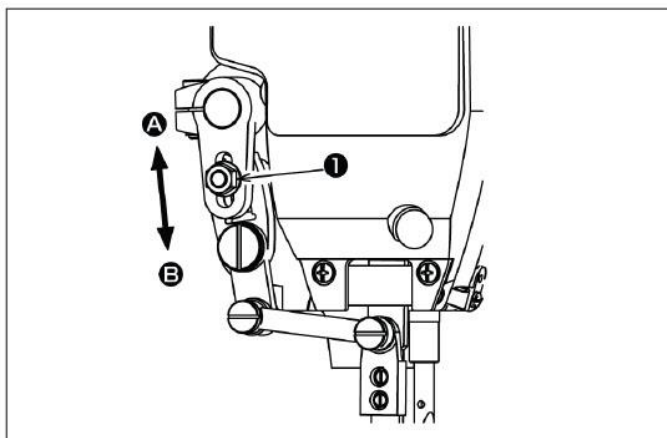

Fig.22
Lower position = feed pitch, large (B) See Fig.22.